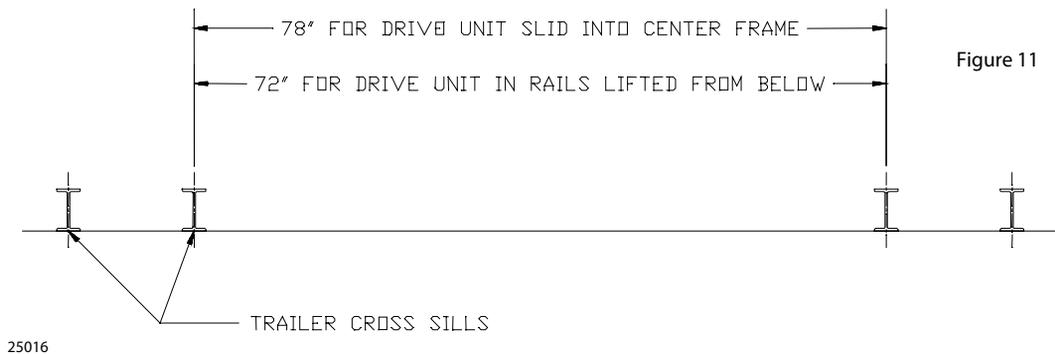

Figure 11
1. Remove cross-members to create an adequate gap for the drive unit (Figure 11). See Chapter 4 for more information about drive unit location.